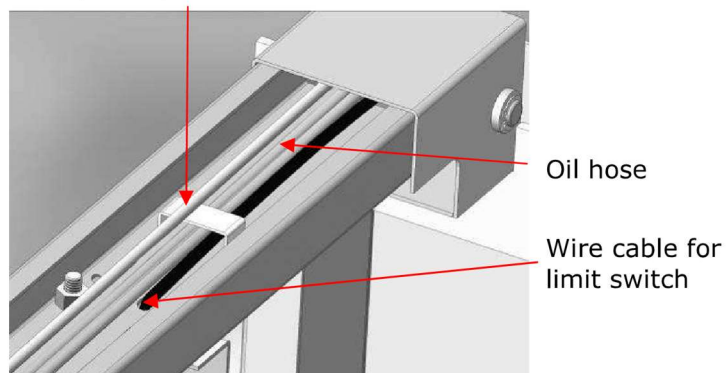

Fig. 31
2. Install safety cable, oil hose and protective cover (See Fig. 29 & Fig. 30 & Fig. 31).